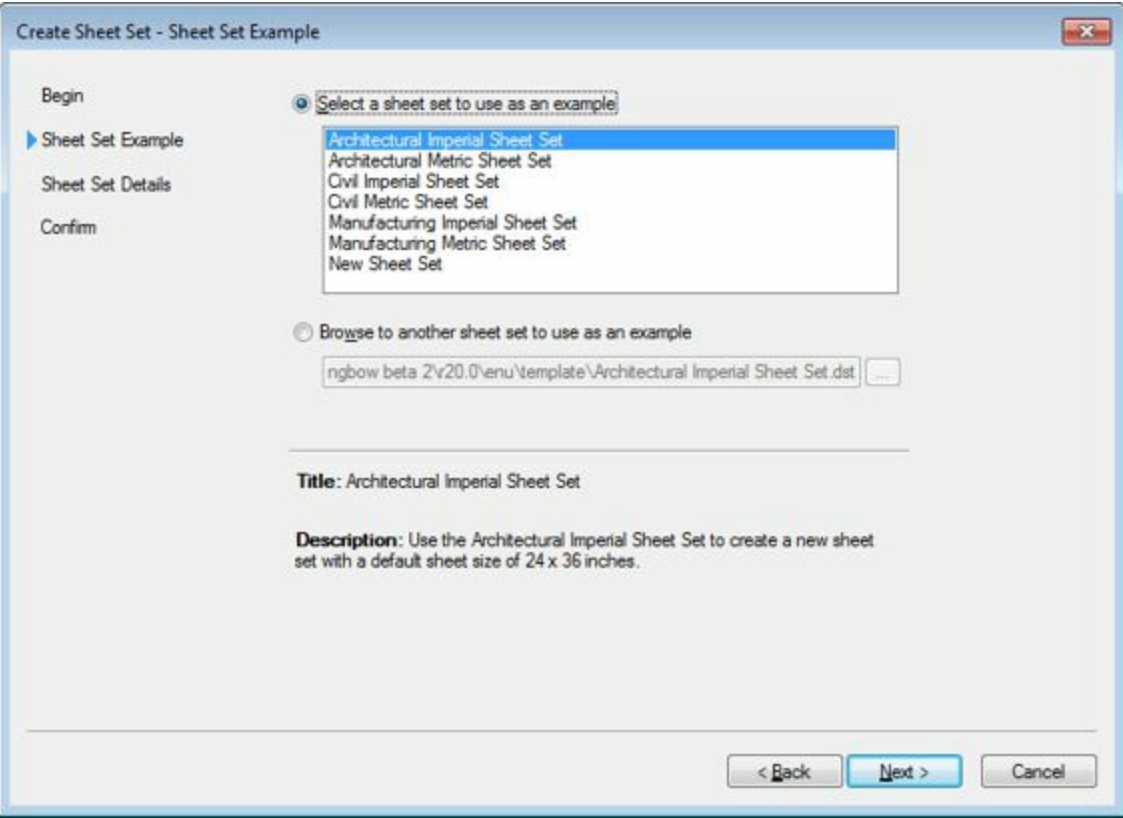

Figure-21. Sheet Set Example page of Create Sheet Set dialog box
- Click on the **Next** button from the dialog box. The **Sheet Set Example** page of **Create Sheet Set** dialog box will be displayed; refer to Figure-21.